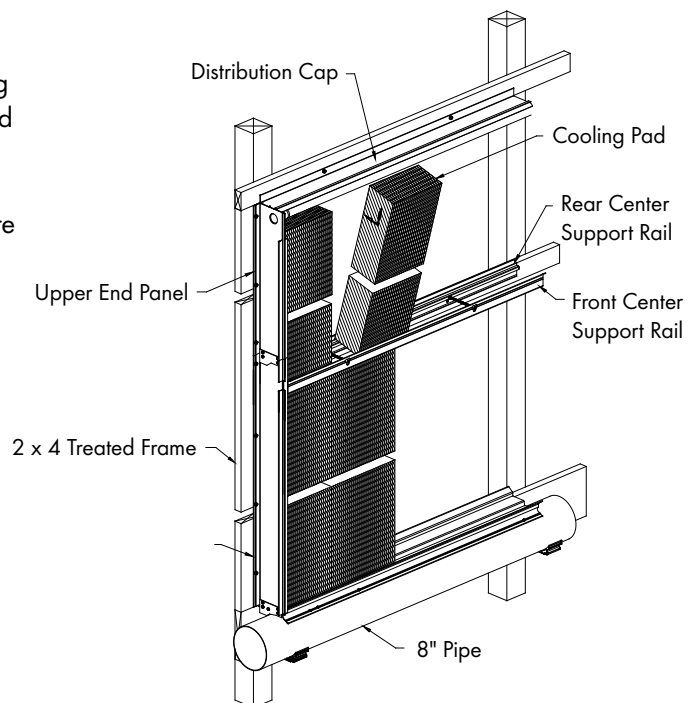

Figure 10
*See Figure 10.* After the first 2 pieces of pad are in place proceed to *Step 12.*